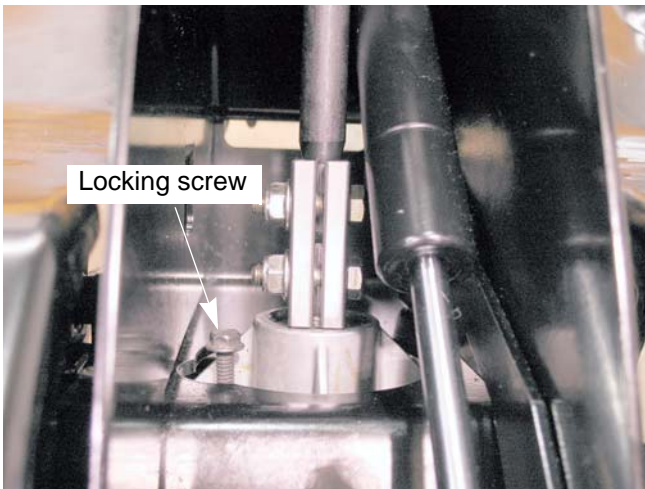

Figure 6.27
- 4a. Remove the 1/4"-20 plug screw from the steering gear box centering port using a 3/8" wrench. See Figure 6.27.